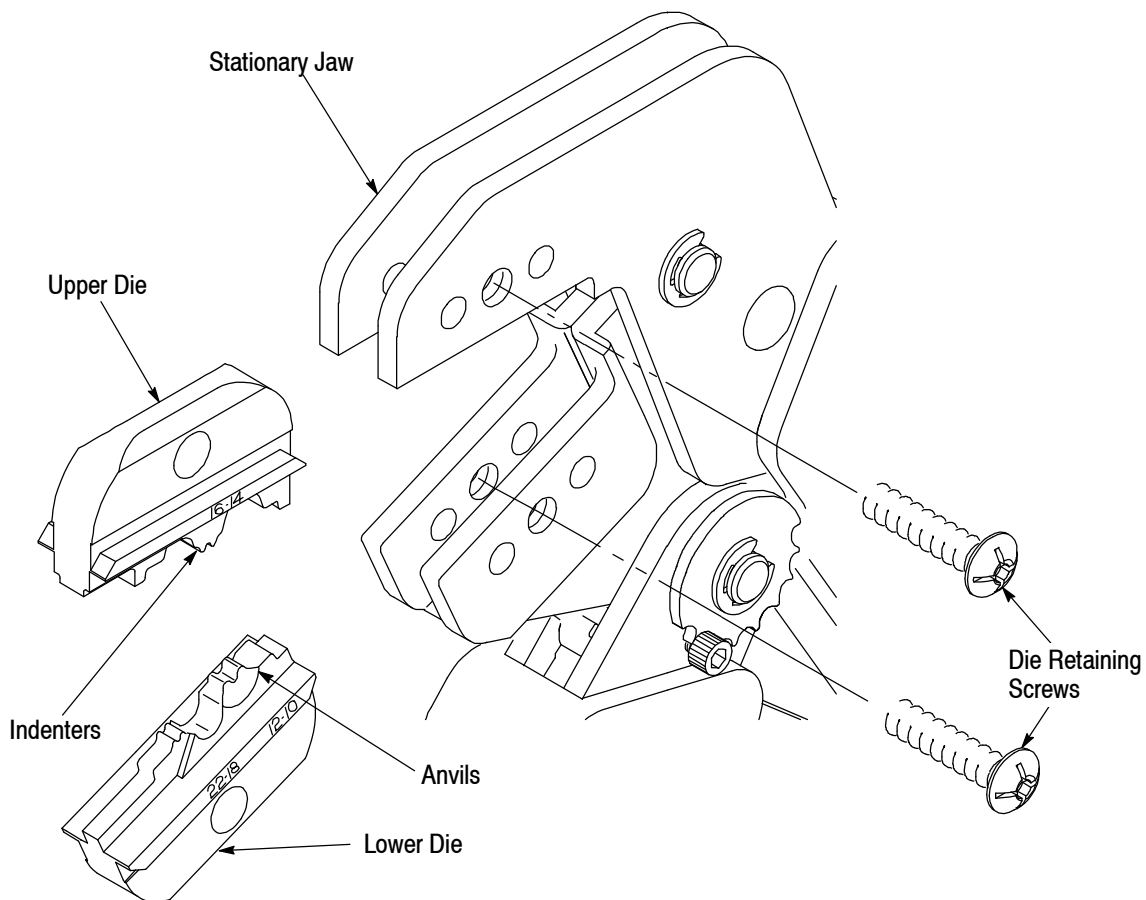

Figure 2
2. Place the upper die in the stationary jaw of the tool frame so that the largest indenter is facing inward. See Figure 2.
4. Place the lower die in the moving jaw of the tool frame so that the largest anvil is facing inward. See Figure 2.